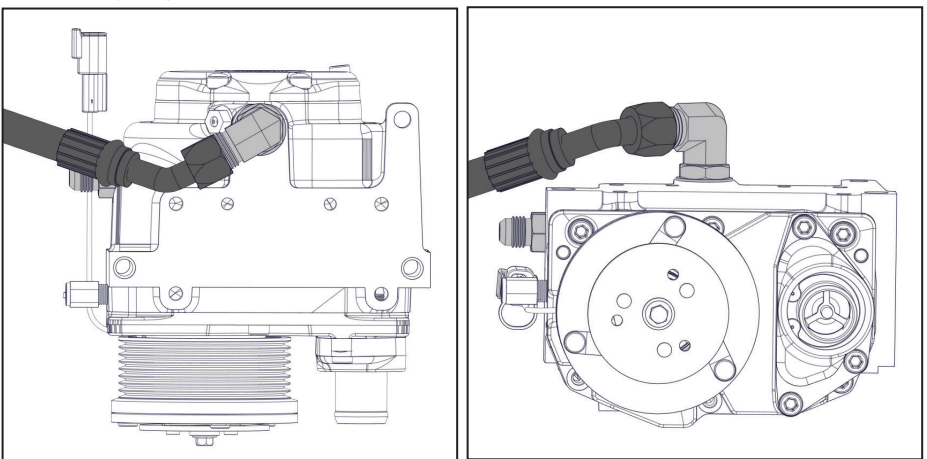

Figure 17 — Compressor discharge fitting
- Install the 45° fitting from the 1/2 in × 31 in discharge hose onto the compressor discharge fitting. Orient the hose in the same direction as, and angled toward, the #6 JIC oil fitting on the side of the compressor, and tighten the hose securely (Figure 17).